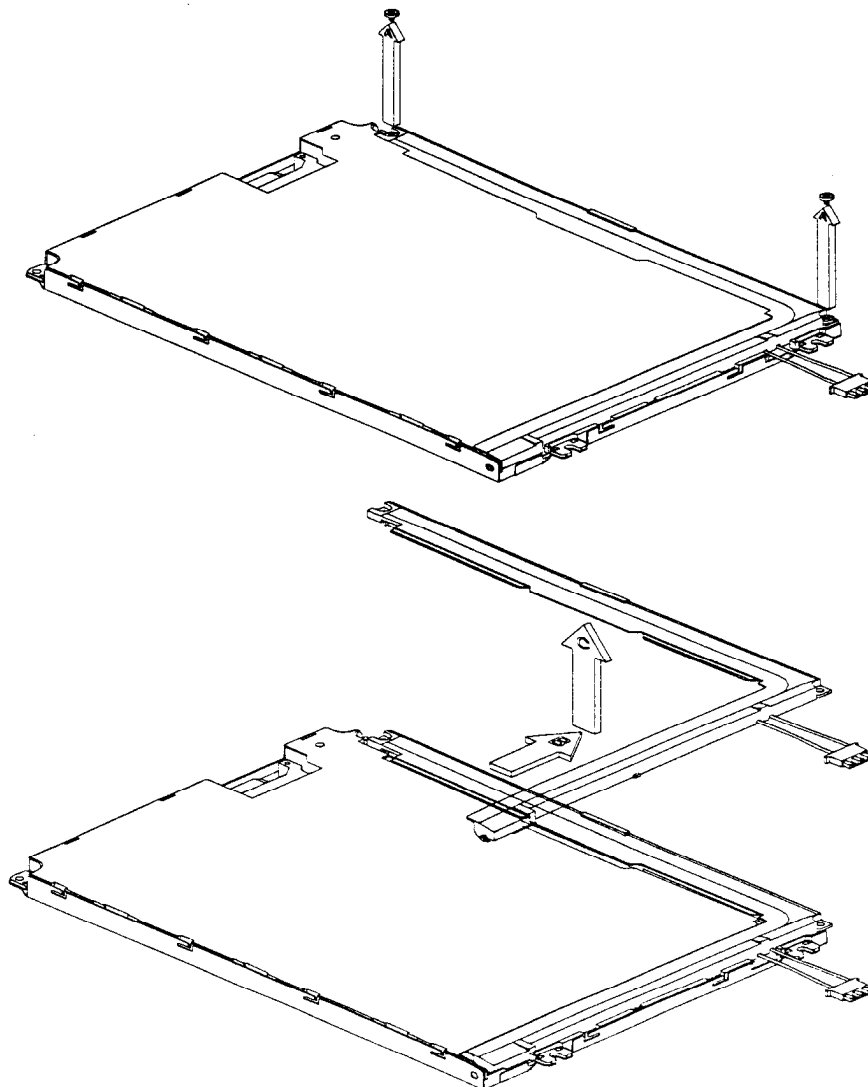
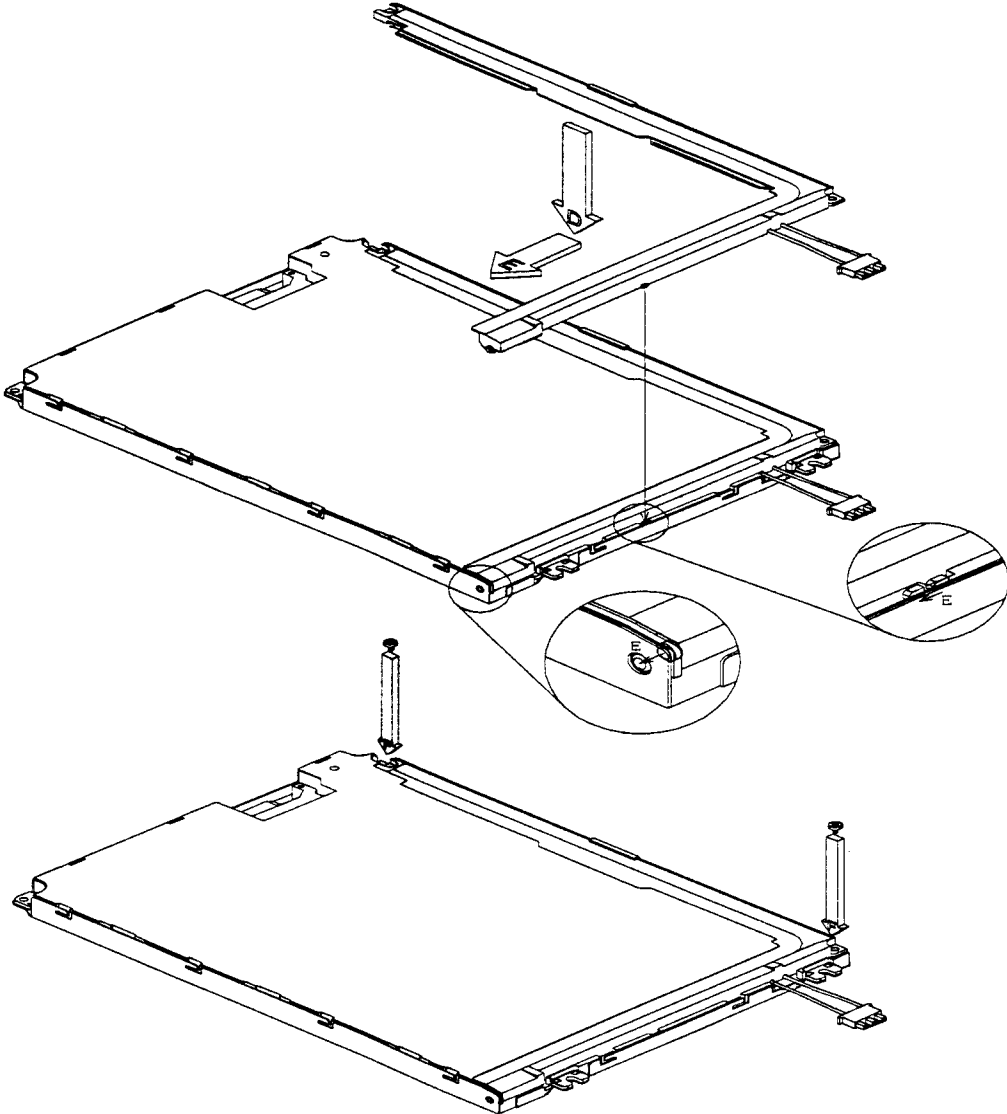

Fig.2. Procedure to exchange Lamp unit.
Fig. 3. Procedure to exchange Lamp unit
- ① Remove 2 screws which holds the Lamp unit. (refer to Fig. 2)
- ② Slide the Lamp unit to the "B" direction.
- ③ Remove the Lamp unit. ("C" direction)
- ④ Replace the new Lamp unit to the "D" direction and slide the unite to the "E" direction. (refer to Fig.3)
- ⑤ Tighten the 2 screws to fix the Lamp unit along the screw gap of hole. The screw torque should be maximum 1.6kgf · cm. If you tighten the screw over 1.6kgf.cm, the screw should be destroyed. Please be careful.
- ⑥ Please insert the lamp with care while replacing. Please be careful for any dust that goes in. Please make sure that the lamp unit is in all the way.